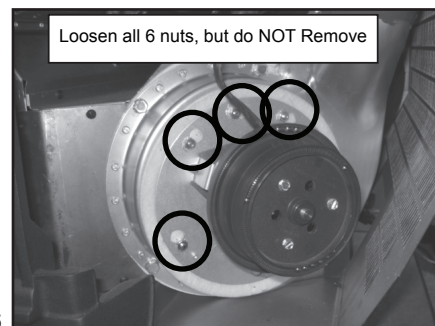

Figure 28.6
- Remove side panel and then using an 11/32 nut driver to loosen all six nuts, but do not remove. Rotate the blower and remove from the housing (**Figure 28.6**).